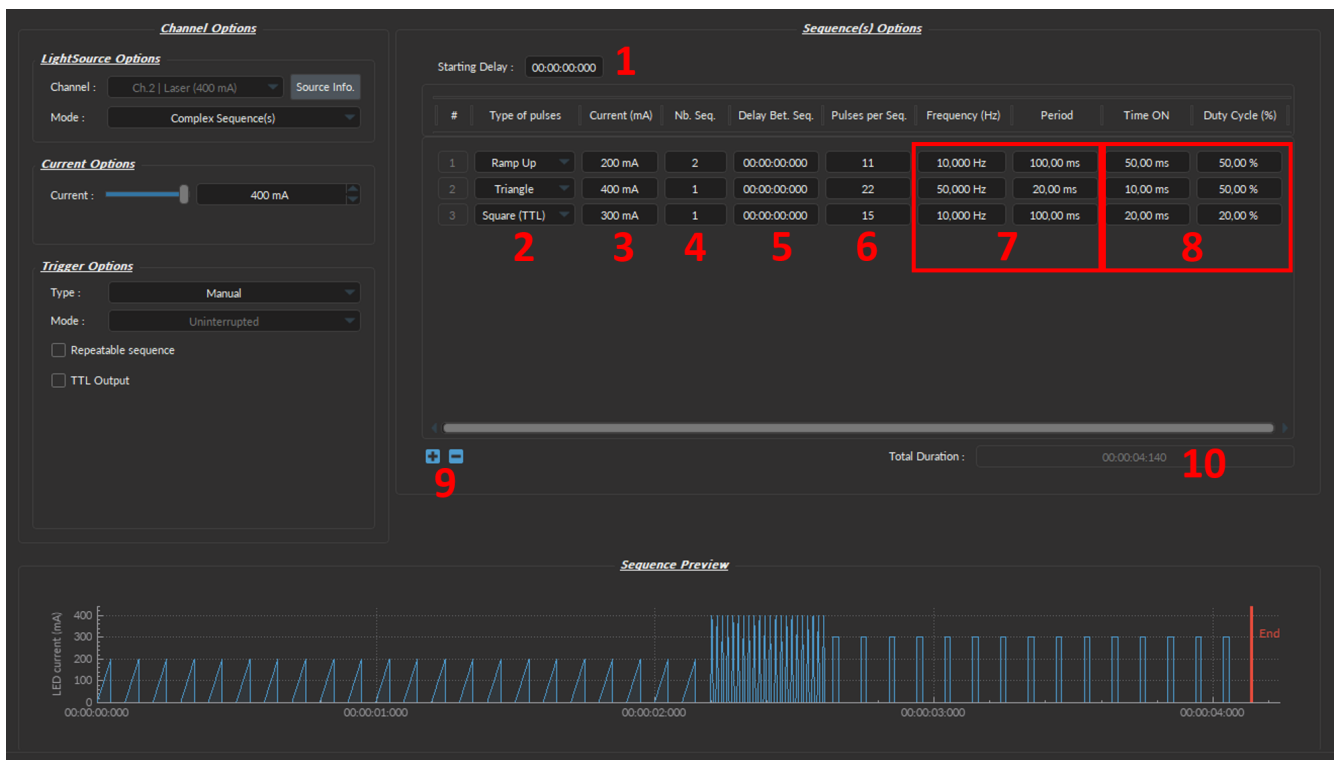

Figure 4.18: Complex Sequences Window
1. The **Starting Delay** (Fig. 4.18) sets the delay (in hh:mm:ss:zzz format) before the first pulse sequence.
2. The **Types of pulses** (Fig. 4.18) sets the pulse type. Pulses can be **Square**, triangular (**Triangle**), **Ramp up Ramp down** or **Delay**. The **Delay** pulse type is used to create a delay between different sequences.
3. The **Max Current** (Fig. 4.18) sets the maximum current (in mA) for the given sequence.
4. The **Number of sequences** (Fig. 4.18) sets the number of times that the sequence will be repeated, with a minimum of 1.
5. The **Delay between sequences** (Fig. 4.18) sets the delay (in hh:mm:ss:zzz format) between each sequence if the **Number of Sequences** is greater than 1.
6. The **Pulses per sequence** (Fig. 4.18) sets the number of pulses per sequence, with a minimum of 1.
7. The **Frequency/Period** (Fig. 4.18) sets the frequency (in Hz) or period (in ms) for the pulse sequence. These two values are linked, and when one is changed the other will adjust automatically. For example, a signal at 10 Hz (frequency) will output one pulse every 100 ms (period), whereas a pulse sequence at 0.5 Hz (frequency) will output one pulse every 2000 ms (period).
8. The **Time ON/Duty Cycle** (Fig. 4.18) sets the time (in ms) or the duty cycle (in %) for each pulse. These two values are linked, and when one is changed the other will adjust automatically. The **Time ON** must be lower than $(1/\text{frequency})+0.005$ ms, while the **Duty cycle** must be below 100 %.
9. The **Sequence controls** (Fig. 4.18) allow the addition (+) or removal (-) of sequences to the spreadsheet.
10. The **Total Duration** (Fig. 4.18) displays the total time of the experiment. The different values can be *Inf* for infinite, a valid time value or *Err* if the **Time ON** value is greater than $1/\text{frequency}$.